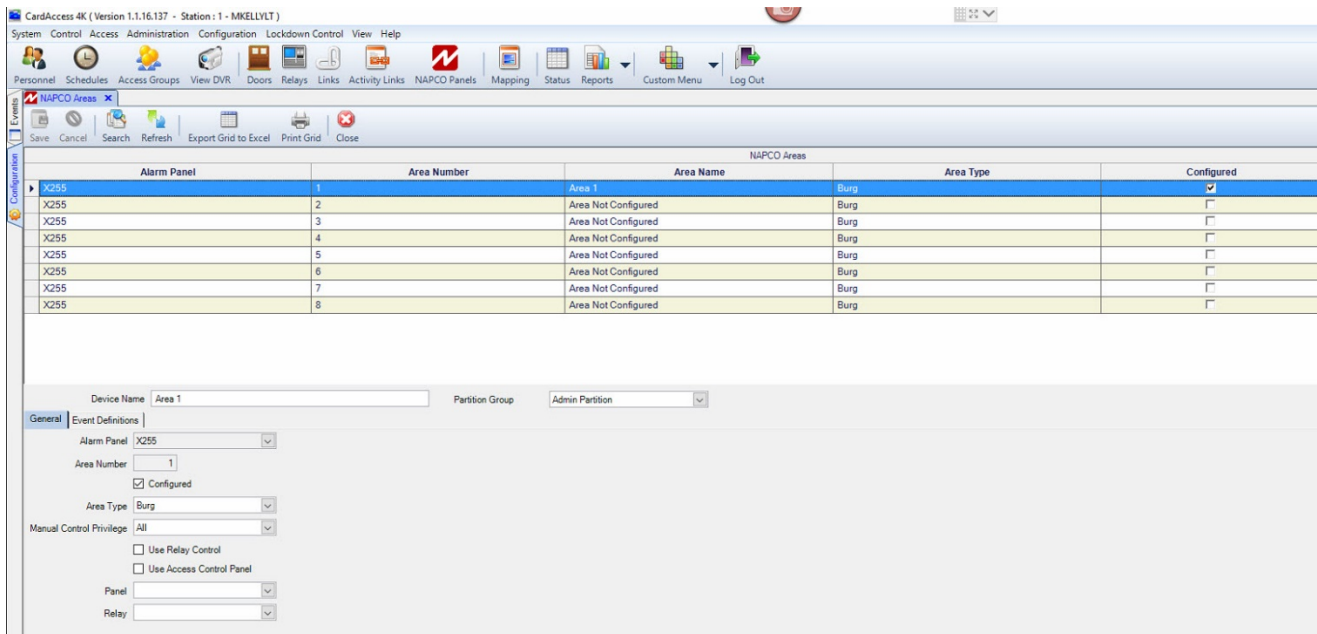

Figure 9.
5. Configure the **Napco Areas** screen (General tab) as follows (refer to Figure 9).